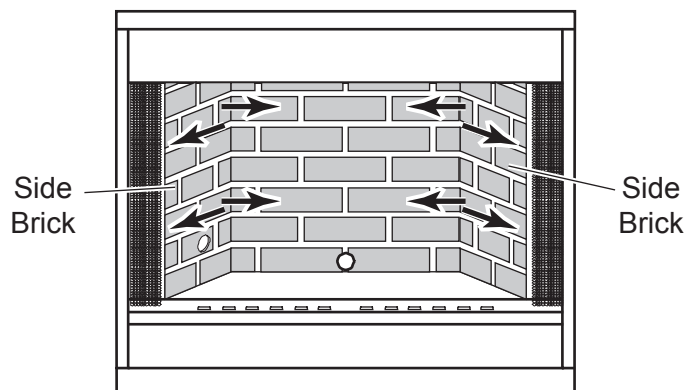

Figure 34 - Removing Side Brick
5. Pull back edges of side brick panels toward center of fireplace while sliding front edges toward rear of fireplace. *See Figure 34. IMPORTANT: Do not allow back brick panel to fall forward.*